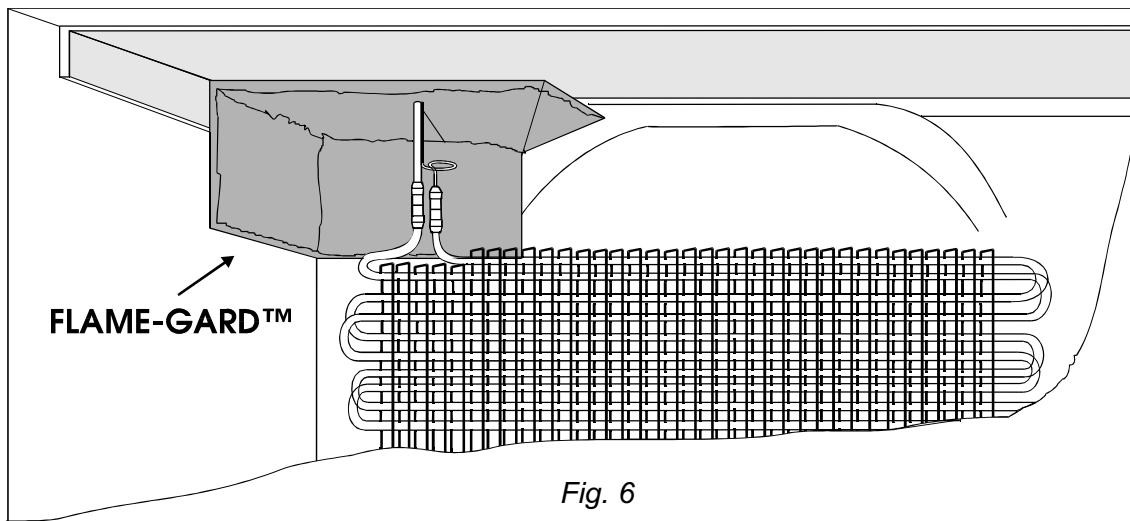

Fig. 6
18. Cut and fold the FLAME-GARD™ material according to the correct template. (Fig. 6)